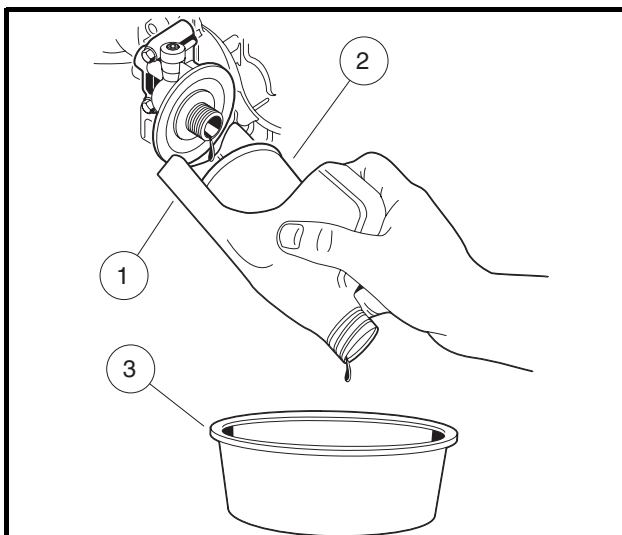

Figure 25 Remove Engine Oil Filter
NOTE: An oil drip guard (1) can be used to prevent excess oil from dripping onto the engine base plate (**Figure 25**). Use an empty quart (one liter) container and cut the bottom off at an angle, then slide the open area of the container up and under the oil filter (2) before removal. Position the port of the plastic container so oil will be directed into the oil pan (3). A drip guard can be made by folding a piece of cardboard, thin metal, or plastic under the oil filter, forming a channel to direct the filter port oil into the drain pan.